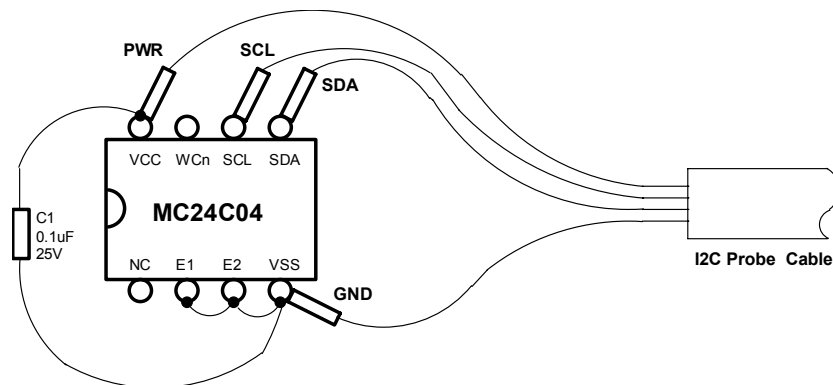

Figure 3. Connections to M24C04 I2C target test device
5. Connect the four I2C bus probes (SDA, SCL, PWR, and GND) to the I2C target device. (See Figure 3)